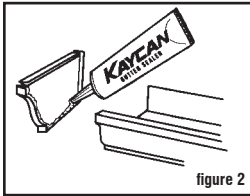

figure 2
Begin gutter assembly at the higher end. Fill the joining area of the end cap (D) or (E) with Kaycan gutter sealer (7) and press into place (figure 2). To join two gutter sections, notch the top front bead to allow an overlap of 2". Apply Kaycan gutter sealer around overlapping surface of one section and press together. Apply a bead of sealer along the inside edges of all joints.